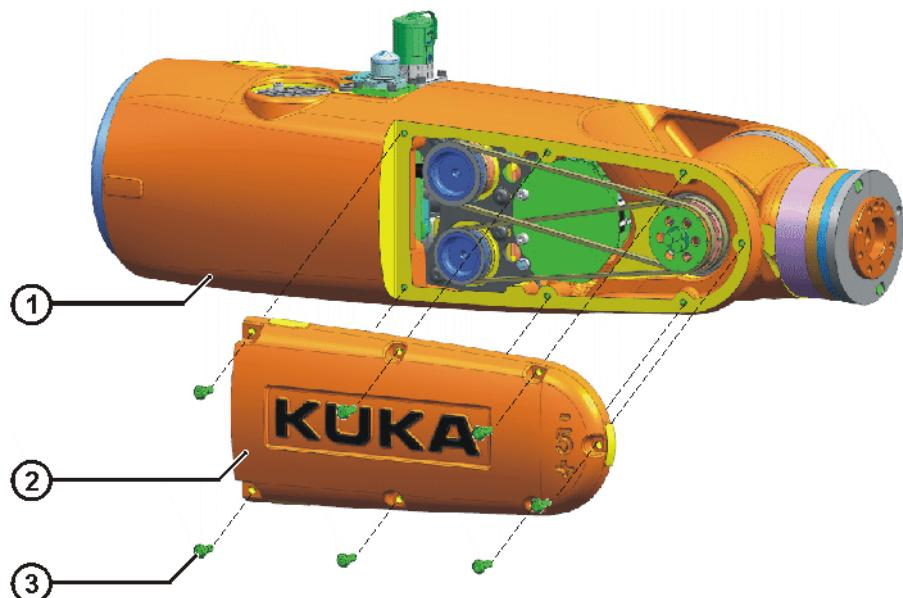

Fig. 9-3: Removing the cover from the in-line wrist – example
1. Remove 7 M3x10-10.9 fillister head screws from the cover and take off the cover (**>>>** Fig. 9-3).